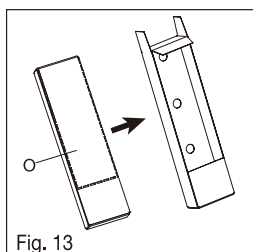

Fig. 13
- ☐ Tear the drilling template box (O) according to the dashed line (see Fig. 13).